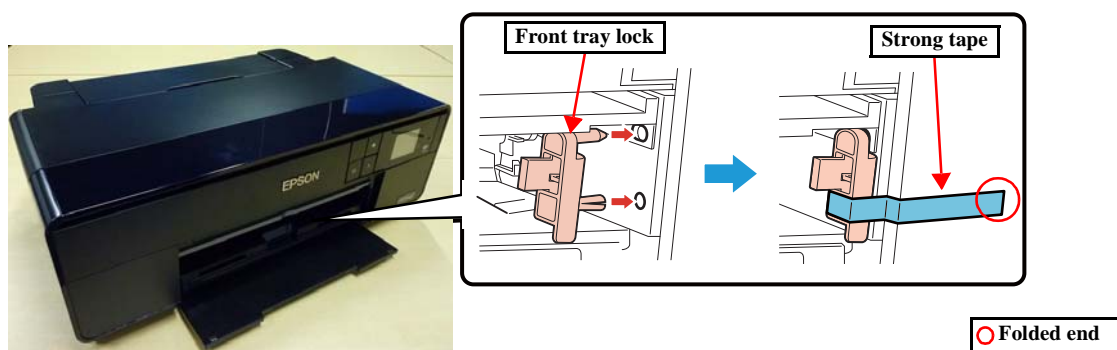

Figure 1-2. Attaching and Securing the Front Tray Lock
1. Attach the front tray lock on the position shown in Figure 1-2.
2. Attach the unfolded end of strong tape on the front tray lock as shown in Figure 1-2, and pull the tape and apply it along the shapes of the Upper Housing Support Assy to secure the front tray lock.